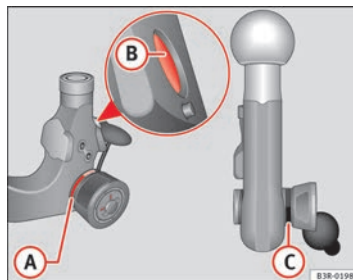

Fig. 165 Removable
- Check that the red marking **(A)** ⇒ page 204, fig. 165 on the knob is inside the black zone marked on the ball joint.